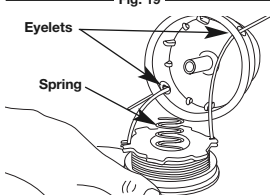

Fig. 20
5. Insert the ends of the line through the eyelets in the outer spool (Fig. 20).